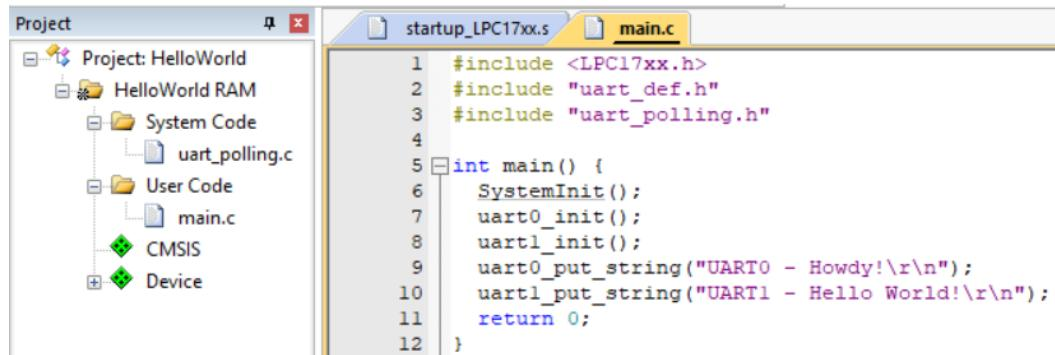
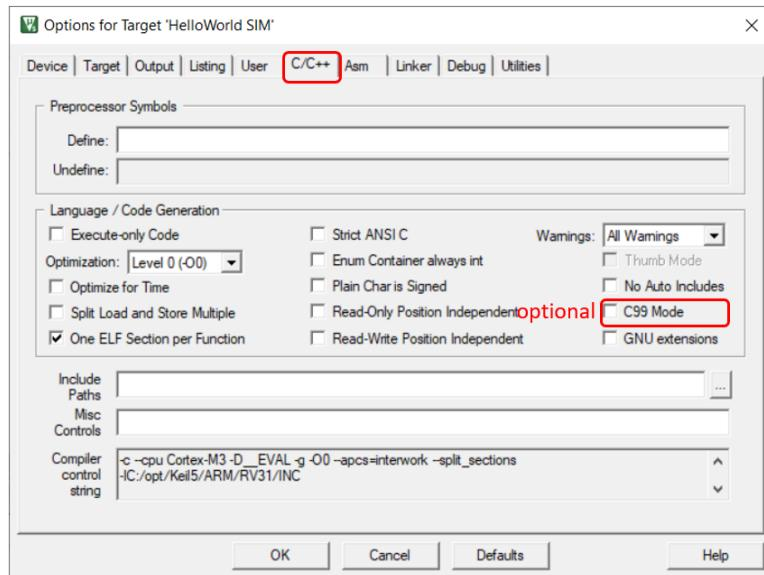

Figure 8.10: Keil IDE: Final Project Setting
Figure 8.12: Keil IDE: Target Options C/C++ Tab Configuration
the source code as shown in Figure 8.10. Your final project would look like the screen shot in Figure 8.10.
2. Configure the C/C++ tab as shown in Figure 8.12. We do not need c99 for this example. So we leave it unchecked. If you click OK to finish the Target option setting now, you will find the red cross at line 2 (See Figure 8.10) is now gone. Now re-open the target options configuration window and proceed to the next step.